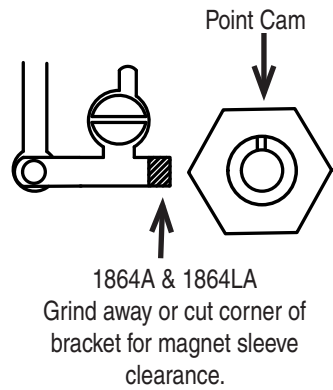

Figure 1
4. The Ignitor does not require any modification to the distributor. Therefore the point, condenser and hardware can be used as backup. **Note:** 1864A & 1864LA require a minor modification. See Figure 1.
- **Part numbers: 1845, 1848, 1849, 1864A, 1864LA, 2843, 92846:** Note: *Part numbers 1864A & 1864LA modification required. (See Figure 1).*